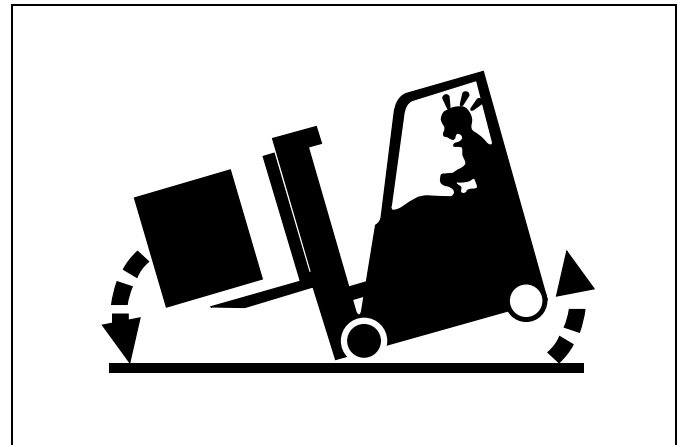

Figure 1-4: Longitudinal Tip
- the forklift is overloaded. See Figure 1-4.